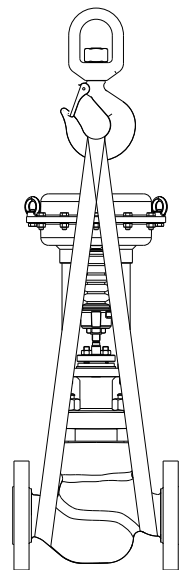

Bild 1: Lifting equipment
- Suitable valve lifting equipment should be used. This should be attached to the valve body as shown in Abbildung 1 and not to the stem or the actuator. Ensure that the control valve is secured against falling, toppling over and shifting.